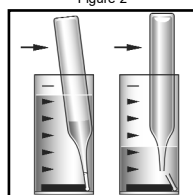

Figure 3
For CHEMetrics photometers, follow the **Setup and Measurement Procedures** in the operator's manual. For spectrophotometers, set the wavelength to 610 nm. A sealed ZERO ampoule is supplied in this kit for zeroing when the sample is colorless and not turbid. For improved accuracy with colored or turbid samples, Sample Zeroing Accessory Pack, Cat. # A-0504 is recommended. Using the sample cup, snap the tip of the A-0504 ampoule in the sample (see figure 3 below). Invert the ampoule to mix. Dry the ampoule and use it in place of the supplied ZERO ampoule to zero the instrument.
3. Immediately place the ampoule, tip first, into the sample cup and snap the tip. The ampoule will fill leaving a bubble for mixing (fig. 3).
6. Insert the Vacu-vial ampoule into the photometer, flat end first, and obtain a reading in ppm (mg/Liter) sulfide (S).